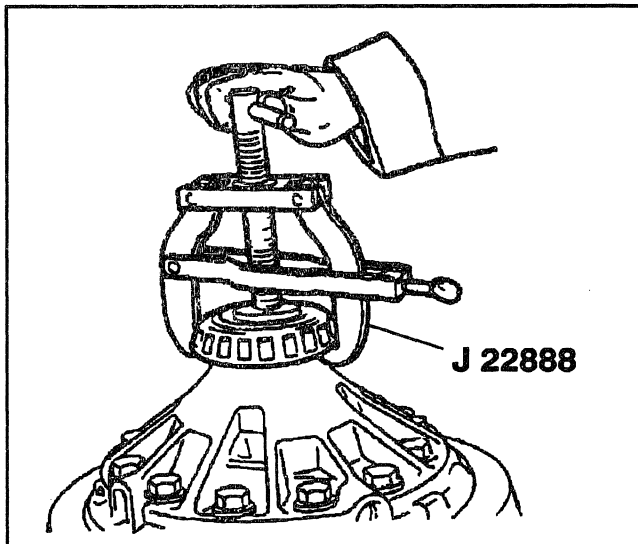

Figure 2—Removing the Differential Side Bearings
- 3. Axle shafts (47).
- 4. Adjusting nut lock bolts (22).
- 5. Adjusting nut lock (21).
- Loosen the adjusting nuts (19).
- 6. Bearing cap bolts (28) and washers (27).
- 7. Bearing caps (20).
- 8. Adjusting nuts (19) and bearing cups (18).
- 9. Differential case (34).
10. Bearings using J 22888-20 (Figure 2).
11. Ring gear bolts (36) and washers (35).